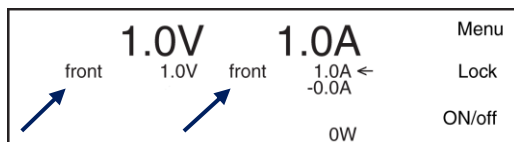

Figure 10.1: At the right side, the texts must be 'Lock' and 'ON/off'.
- If the text is 'Unlock', press the button next to this text for a few seconds to unlock the unit, see Figure 10.1.